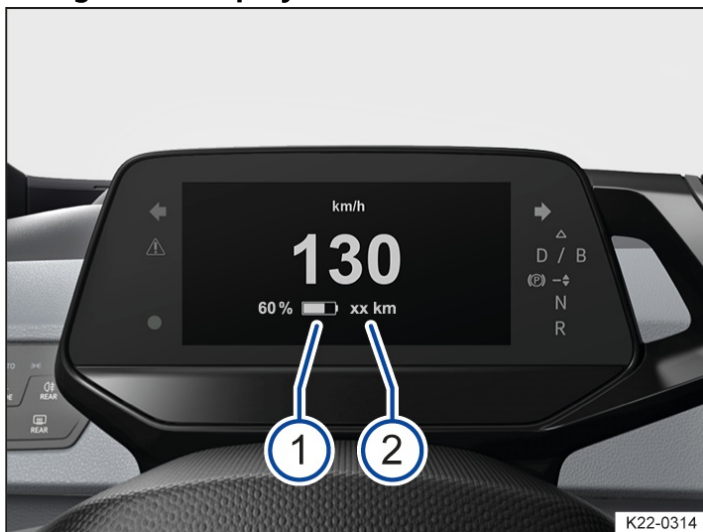

Fig. 1 In the digital instrument cluster: charge level of the high-voltage battery (1) and vehicle range (2) (illustration).
The current charge level of the high-voltage battery is displayed in the digital instrument cluster by the symbol  with a percentage value → Fig. 1 (1). The fill level of the battery symbol changes with the charge level.
The vehicle range is specified in kilometres (km) or miles (mi), depending on the setting → Fig. 1 (2).